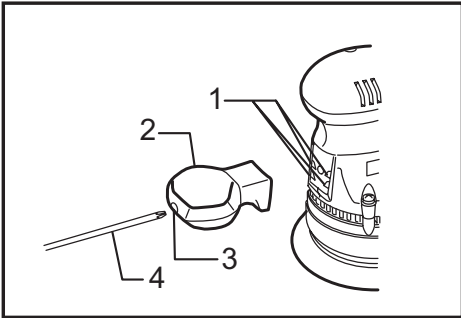

Fig.3
► Fig.3: 1. Notches 2. Front grip 3. Hole in front grip 4. Screwdriver